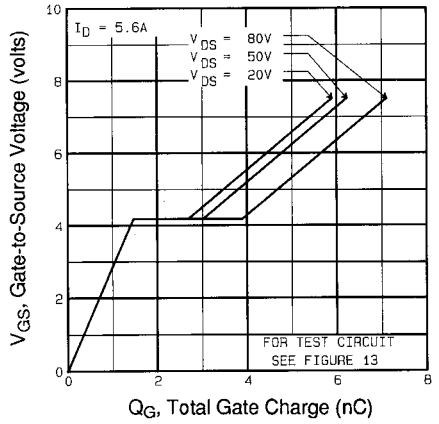

Fig 6. Typical Gate Charge Vs. Gate-to-Source Voltage
| Q_{gd} | Gate-to-Drain ("Miller") Charge | — | — | 3.3 | | $V_{GS}=5.0V$ See Fig. 6 and 13 ④ |